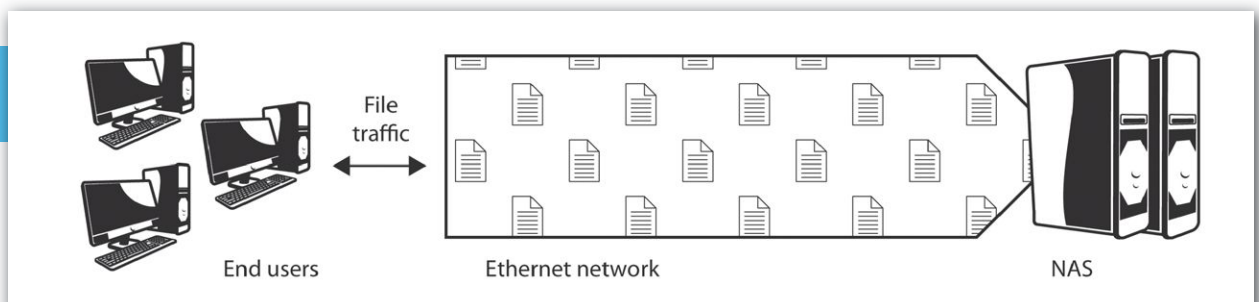

Figure 4: A basic NAS setup.⁷
In Figure 4, the end users read and write files to the NAS system over an Ethernet network. NYI employs multiple FreeNAS machines with over 20 TB (terabytes) of storage to house offsite backups.
7. Figure 4 is adapted from "Big data meets big storage," accessed August 14, 2013, <http://arstechnica.com/business/2011/05/silon-overview/2/>.